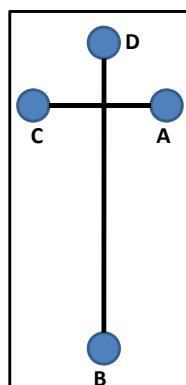

Figure 33. Diagram of basic cross microfluidic chip. Reservoir Guide: A=Sample; B=Buffer waste; C= Sample waste; D=Buffer.
In the pinched injection the load step uses applied voltages at all four reservoirs to define a time-independent volume between the sample (A) and sample waste (C) reservoirs. An inject step applies a different voltage sequence to pull back the sample and sample waste fluid while sweeping the defined injection plug from buffer to buffer waste. **Figure 33** shows a diagram of a generic microfluidic chip. This example assumes the use of a standard Caliper NS12A chip.